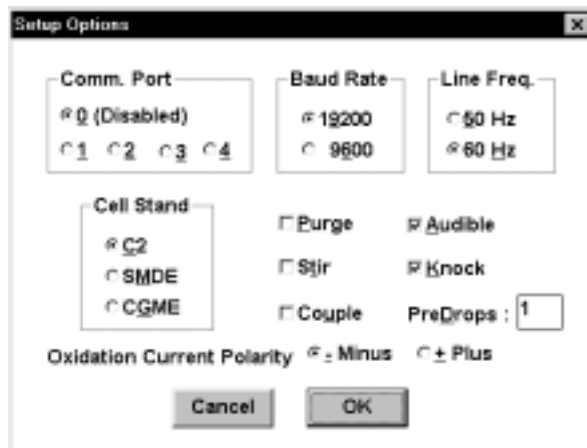

Figure 2-11. Setup dialog box.
5. The BAS 100W software is opened by double-clicking the BAS 100W icon. Before any operation, it is advisable to check that the communication parameters are correct. These are contained in the **Setup** dialog box in the **File** menu (Figure 2-11).